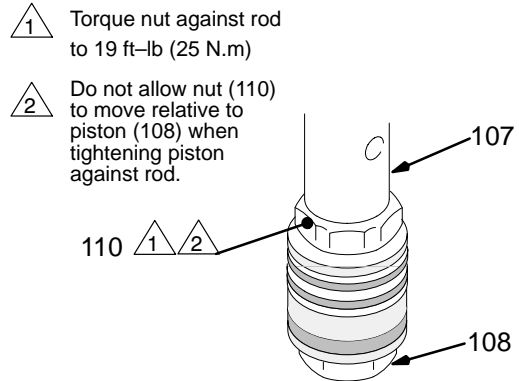

Fig. 20
6. Hand tighten the valve into the piston rod just until the nut (110) contacts the rod. See Fig. 20.
7. Place the flats of the rod (107) in a smooth jaw vise.
8. **CAREFULLY** tighten the nut (110) against the piston rod to 19 ft-lb (25 N.m). See Fig. 20.